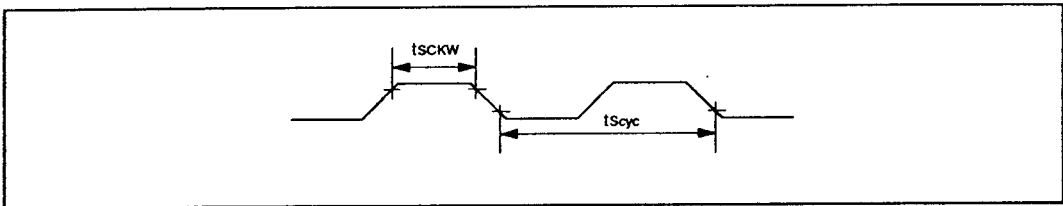

Figure 19-20 SCI Input Clock Timing
19.3.7 Serial Communication Interface Timing	Figures 19-20 and 19-21